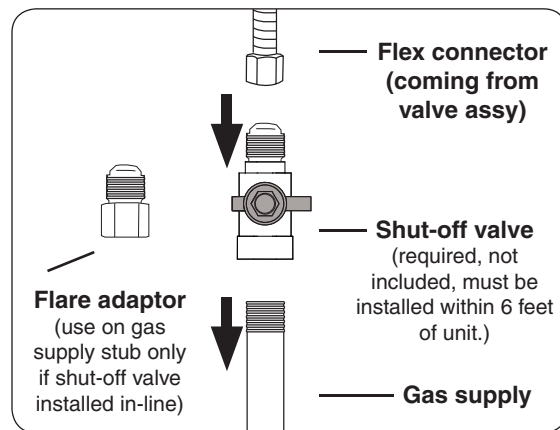

Fig. 23-3 Connecting to a gas line
- Connect the flex connector to the shut-off valve (see Fig. 23-3). Tighten securely.
- Install the supplied flare adapter to the gas supply using a pipe joint compound resistant to all gasses (see Fig. 23-3). Tighten securely.
- Connect the flex connector to the flare adapter (see Fig. 23-3). Tighten securely.